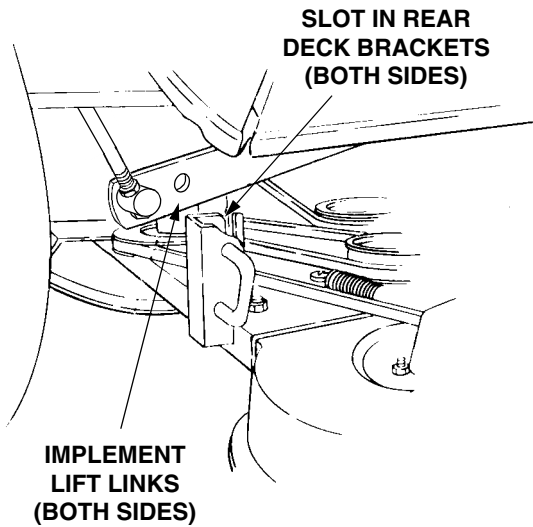

Figure 46
3. Make sure the slot in both rear deck brackets aligns with the implement lift links on each side of the tractor (See Figure 46).